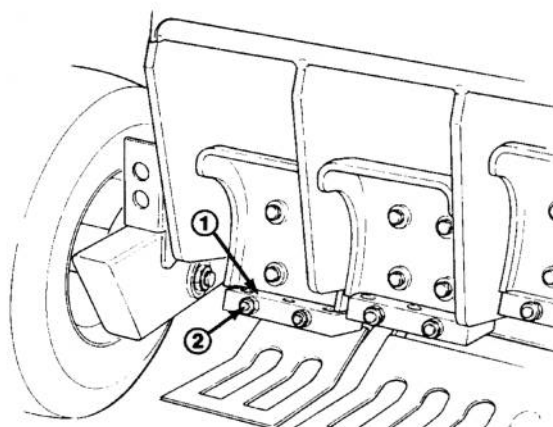

Figure 6
4. Loosen (2) hex nuts on each tine block until tines can be inserted. Insert tines until they bottom out on the flange in the tine block (Fig. 6).